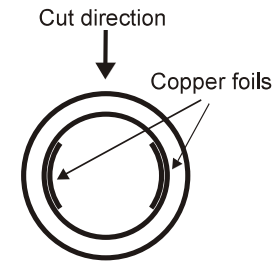

Figure 1
3. Cut the sensor tube with a hacksaw across the copper strips as in Figure 1. Check that the copper strips remain adhered to the inside wall of the tube.